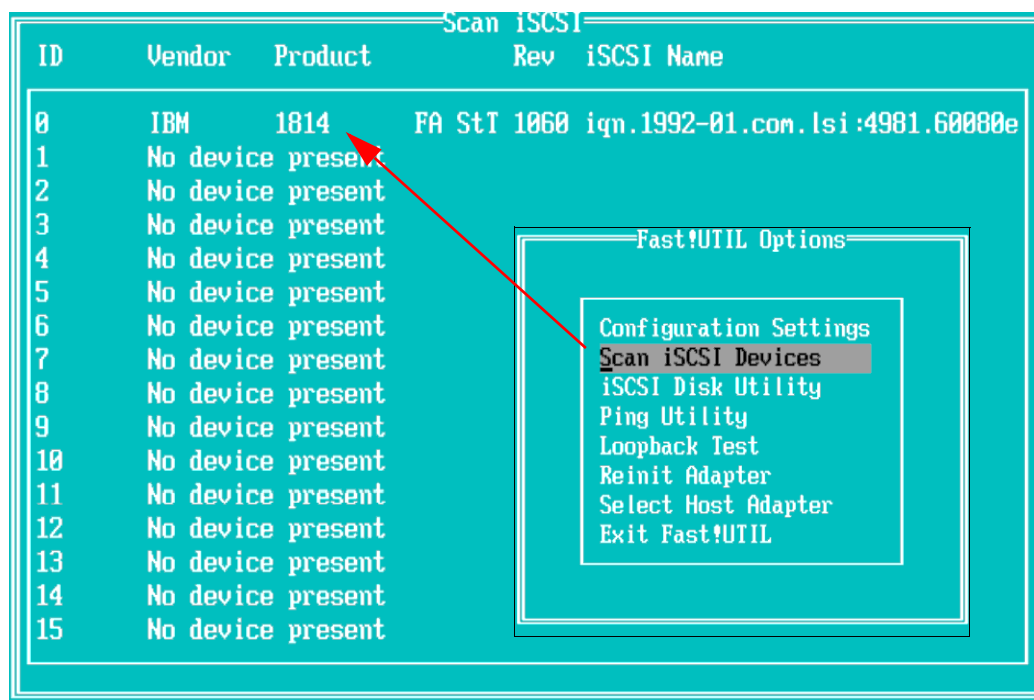

Figure 6-39 Scan iSCSI Devices
- From the Fast!UTIL Options window, select **Scan iSCSI Devices** and press Enter. The HBA will scan for devices connected to it, as shown in Figure 6-39.